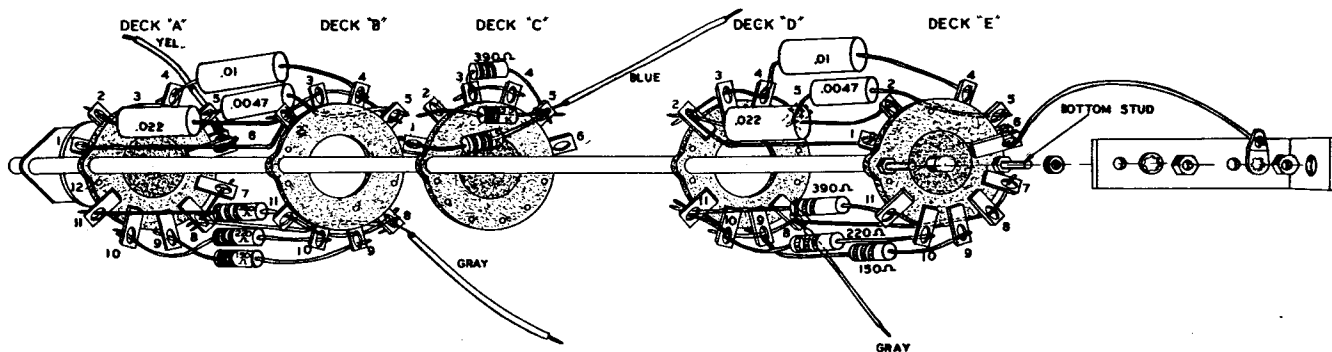

Figure 3
See Figure 3 for following wiring.
- (✓) Insert a bare wire through B2 to A1; form the wire as shown between B2 and A1. Run the other end of the wire from B2 through B3, B4 to B5 as shown in Figure 3. Solder A1 only.
- (✓) See Figure 3 and form a bare wire from B8 through B9, B10 to B11 (NS).
- (✓) Run a bare wire through A8 to B8 (NS); at the A8 end form the wire over to A7. Solder A7 and A8.
- (✓) Insert a bare wire through D2 to E1; form the wire as shown between D2 and E1. Run the other end of wire from D2 through D3, D4 to D5, as shown in Figure 3; solder E1 only.
- (✓) See Figure 3 and form a bare wire from D8 through D9, D10 to D11 (NS).
- (✓) Run a bare wire through E8 to D8 (NS); at the E8 end form the wire over to E7. Solder E7 and E8.
- (✓) Strip both ends of a 2 1/2" yellow wire and connect one end to A6 on the selectivity switch (S). Leave the other end free.
- (✓) On deck C, connect a 1.5 K ohm resistor (brown-green-red) from C1 (S) to C5 (NS); run wire as shown, to avoid shorting other contact.
- (✓) Strip both ends of a 2" piece of blue wire; connect one end to C5 (NS). Leave other end free.
- (✓) Slip two small insulating washers over the switch studs and mount the rear support bracket. Use a 4-40 nut and lockwasher on the top stud and a #6 solder lug and nut on the bottom (stud), being sure the bracket faces in the right direction. See Figure 3.
- (✓) Connect a short bare wire through both lugs at E6 (S) to the adjacent solder lug (S). Set the switch aside until final assembly.